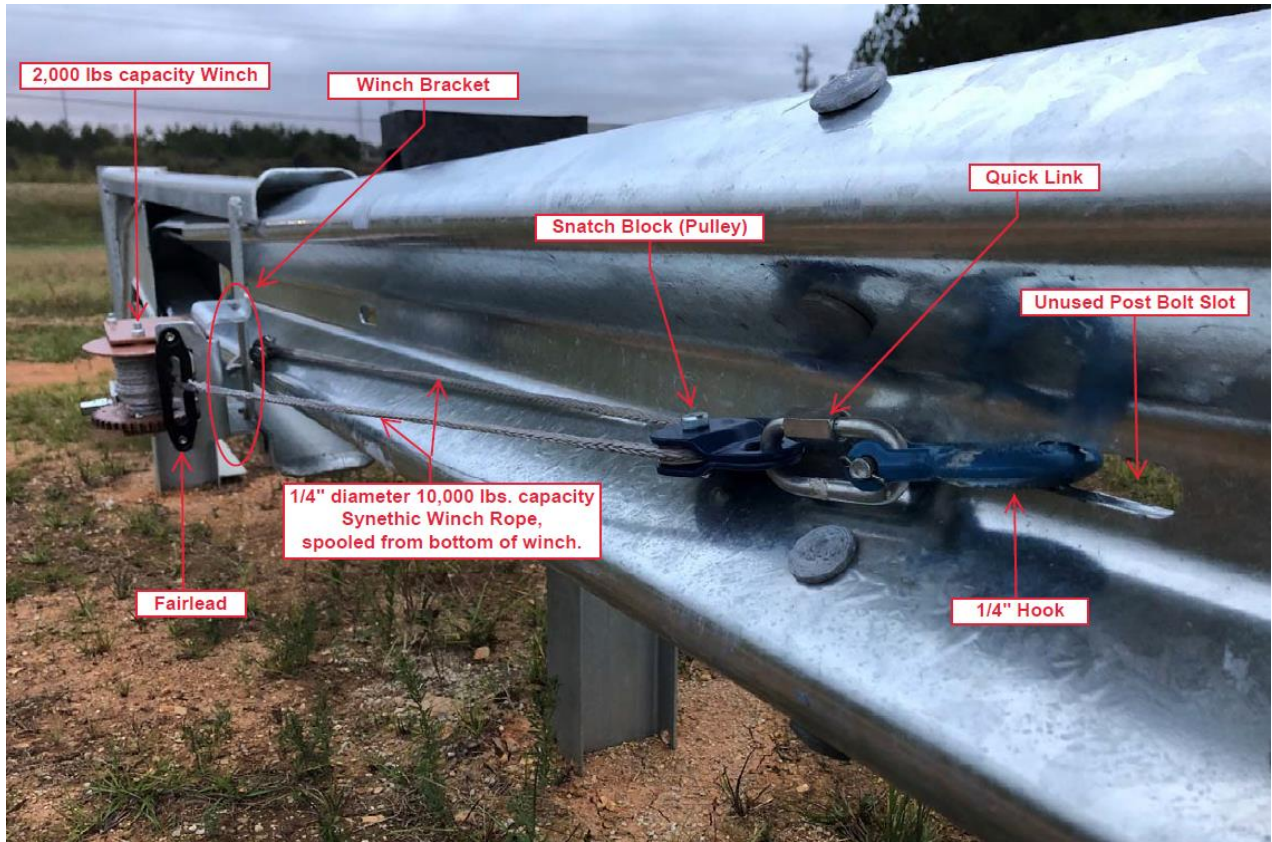

Figure 1
1. Bolt 2,000 lb. winch to Winch Bracket (PN 627797B with hardware) ensuring three (3) bolts protrude a minimum of two (2) threads beyond the lock nuts and tighten with hand tools.
6. Install snatch block (pulley) on the synthetic winch rope with 1/4” hook, utilizing quick link. See Figure 1 on page 2 of this document.